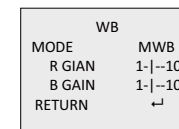

Figure 3-3 WB
**MWB**: Set the **R GAIN/B GAIN** value from 1 to 10. As shown in Figure 3-3.